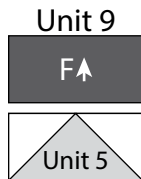

Fig. 13
7. Sew (1) $3\frac{1}{2}$ " x $6\frac{1}{2}$ " Fabric F strip to the top of the Unit 5 strip lengthwise to make (1) $6\frac{1}{2}$ " Unit 9 square (Fig. 13).